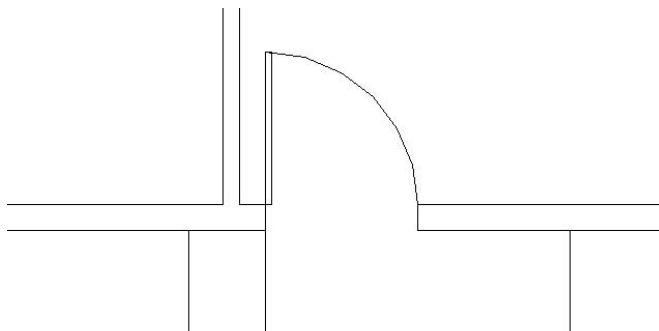

FIGURE 5.5: The sides of the front step after offsetting
8. Press ↵ twice to stop and restart Offset. Type 6'↵ and offset this new line to the right (see Figure 5.5). Press ↵ to end the Offset command.